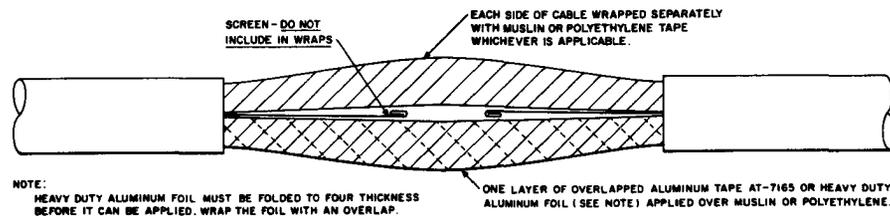

Fig. 2—Wrapping Splice (Air Core Cable)
4.05 Wrap one side (either one) with one layer of overlapped aluminum tape AT-7165 or heavy duty aluminum foil (Fig. 2). Do not include the screen in the tape or foil wrapping.